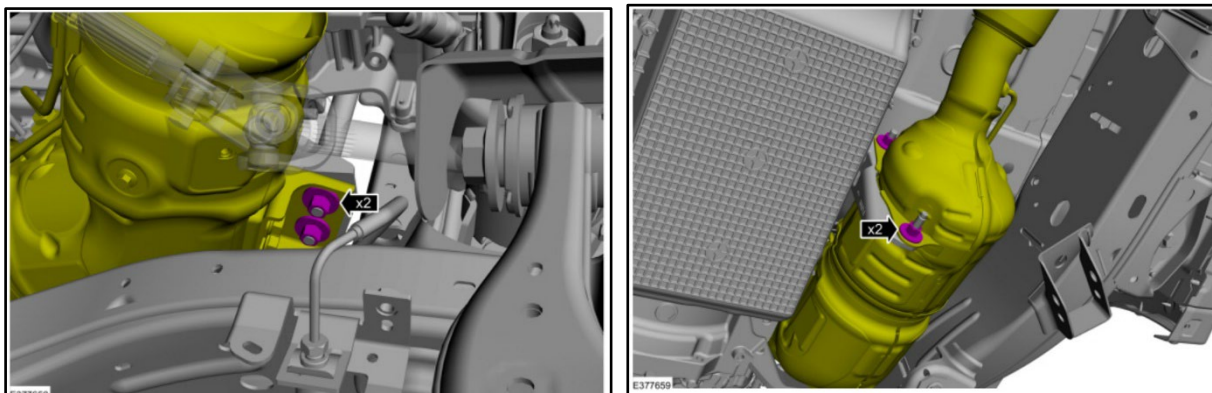

FIGURE 6
6. Remove the 4 DPF nuts. Refer figure 6